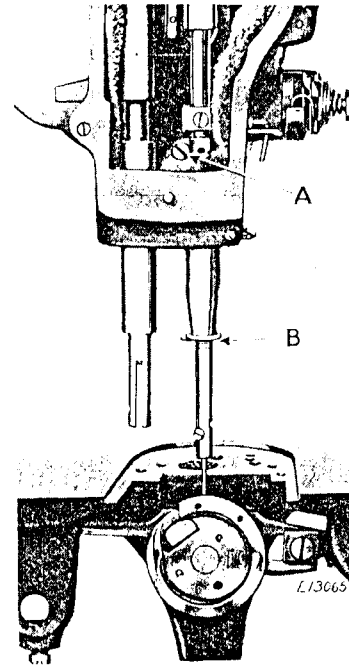

Fig. 18. Showing Needle Bar Set at the Correct Height
Turn the balance wheel over toward you until the needle bar moves down to its lowest point. When the needle bar is in this position, the upper timing mark on the needle bar should be just visible at the lower end of the needle bar bushing, as shown at B, in Fig. 18.
In case the needle bar is not set at the correct height, loosen the needle bar connecting stud pinch screw (A, Fig. 18) and move the needle bar up or down until the upper timing mark is in the position, as instructed above, then securely tighten the screw (A).